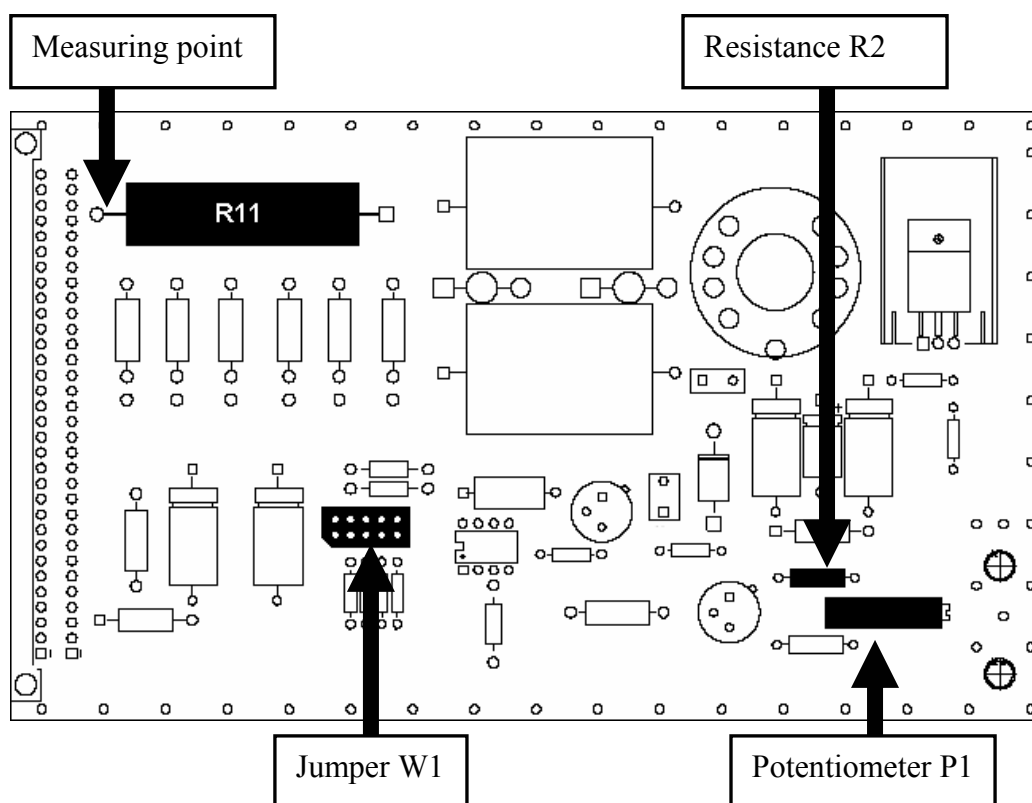

Figure IV-9 : HVS board
- a. Adjust the potentiometer on the High voltage power supply (HVS) board (see Figure IV-9). Turn it clockwise to decrease the value, anti-clockwise to increase the value.
3. If the peak channel value is limited in that it is not increasing in spite the adjustment, the position of jumper W1 (see Figure IV-9) has to be changed. Place the jumper one position further to the left and retry step 11.
4. If it's not possible to adjust the search peak, replace resistor R2 (see Figure IV-9) by a 150 k Ω resistor. Move jumper W1 two steps further right before restarting the procedure at step 1.